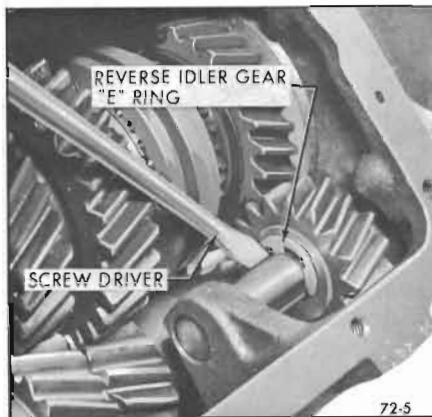

Figure 72-5—Removing Reverse Idler "E" Ring
7. Remove reverse idler shaft to gear "E" ring. See Figure 72-5.